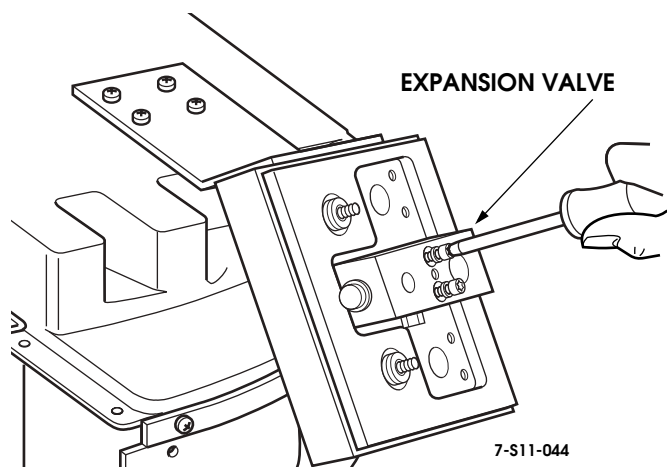

Figure 11-81: Expansion Valve Removal
- Remove expansion valve from the passthrough plate, discard gasket (Figure 11-81).